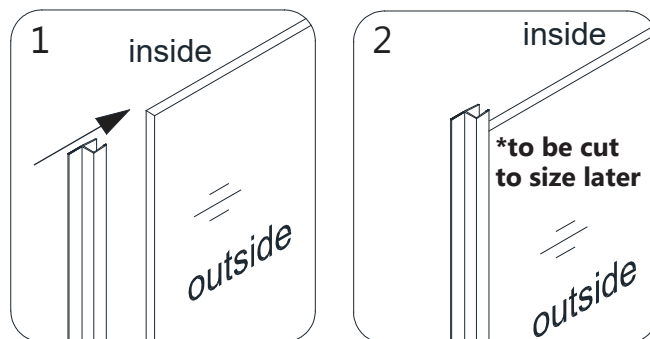

Fig 2
2. Press the **180° Strike Vinyl (#19)** onto the vertical edge of the **Panel Glass (#11)**. (This will protect the edge of the panel glass and allow for proper spacing with the door glass). (Fig 2)